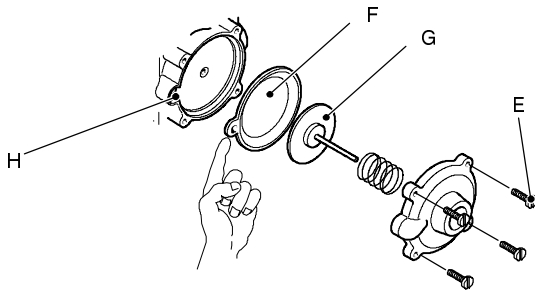

Fig. 53
- 3 Unscrew the four screws E (see Fig. 53) open the hydraulic operator and remove the membrane F.
When assembling the membrane, ensure that its concave side faces towards the actuator plate G and the reference indicated aligns with the seat H (see Fig. 53).